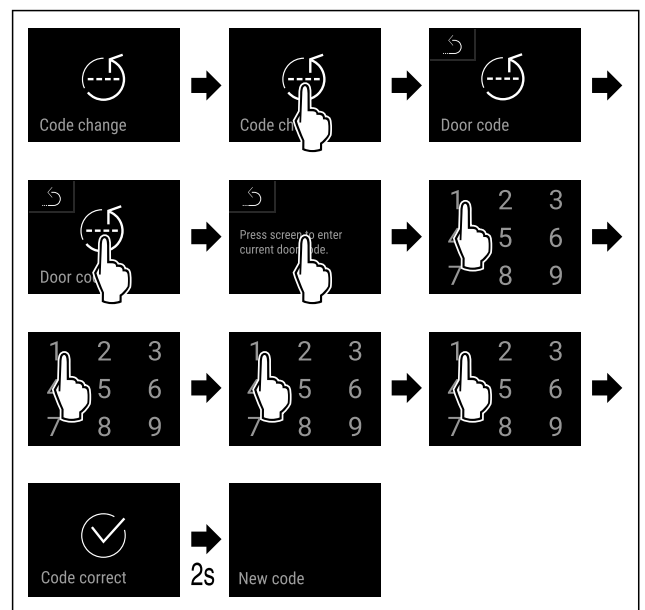

Fig. 91
- ▶ Complete the steps (see Fig. 91).